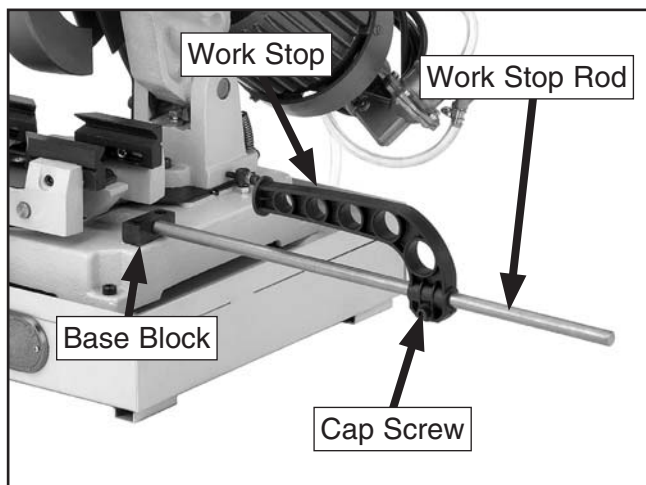

Figure 6. Work stop rod.
3. Attach the work stop rod by threading it into the hole in the side of the base block, as shown in **Figure 6**.